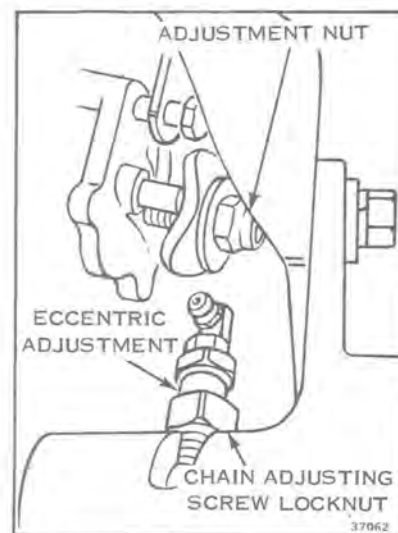

Figure 10-16
1. Loosen adjusting screw locknut (see Figure 10-16).
2. To tighten chain, pivot the eccentric adjustment downward (see Figure 10-16).
3. To loosen chain, pivot eccentric adjustment upward (see Figure 10-16).
3. Remove cotter pin and nut from upper drive sprocket (see Figure 10-16).
The brake is tightened by turning the adjustment nut, Figure 10-16, to the right. To obtain the correct adjustment, turn the nut until there is a slight drag on the brake disc. Then the nut should be turned to the left, about $1/4$ turn.